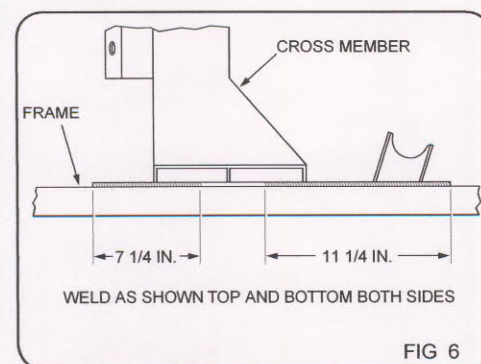

FIG 6
- 12) Recheck all dimensions diagonally. Check to make sure crossmember is square in frame. If correct, weld in place per Sheet 4, Figure 6.